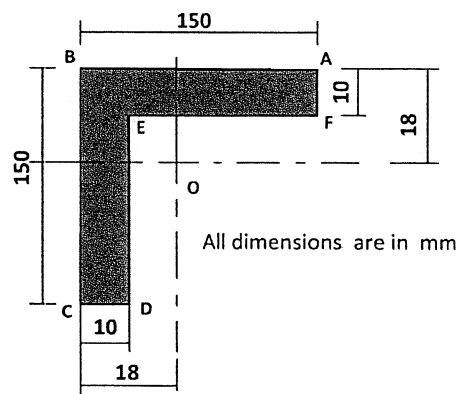

Figure Q1
- Q1. A beam has a cross section as shown in Figure Q1. This beam is to be used as a cantilever over a length of 2m with AB on top. The Modulus of Elasticity of material of the beam is 200GPa.